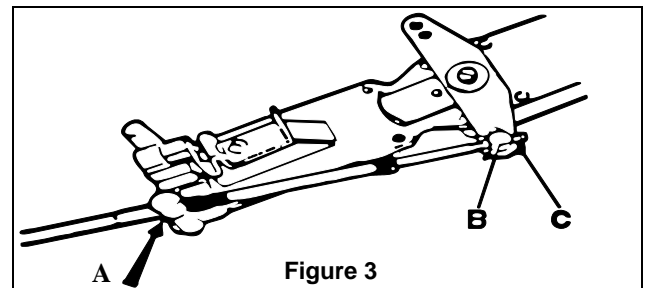

Figure 3
1. Push the shift cable through the appropriate retainer, making sure the cable seats securely into the retainer (Figure 3, item A).
3. Connect the pivot to the shifting lever (Figure 3, item B) and secure with a cotter pin (Figure 3, item C).